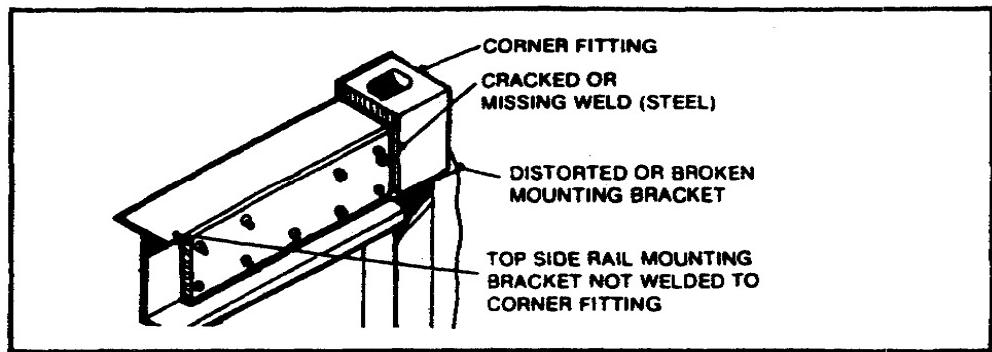

Figure 2-11. Where To Inspect for Corner Fittings and Top Rails.
2.3. Check all visible portions of the corner fittings and top rails for damage and distortion (figure 2-11). Inspect the mounting brackets for breaks and distortion.